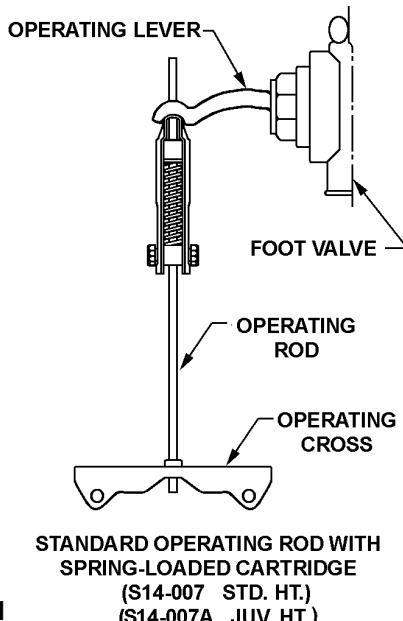

Figure 11
1. Insert the operating rod in the operating rod lever and then into the foot lever (see Figure 11).
NOTE: For normal operation, use the operating rod as shipped. The spring loaded cartridge should be adjusted so there is no play in the operating lever. Care must be taken to insure that a snug fit is achieved without activating the foot valve or water will leak from the sprayhead (see Figure 11).